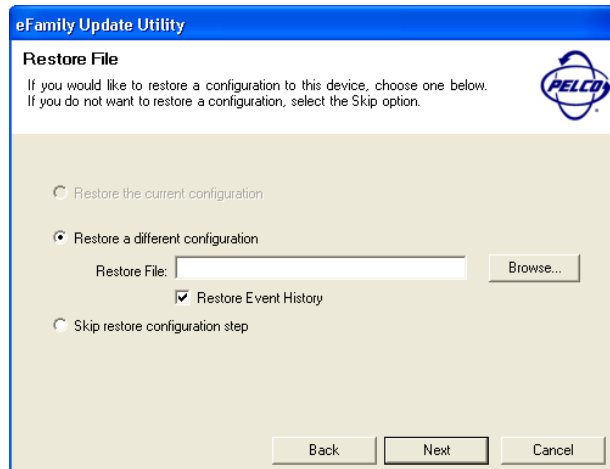

Figure A-10: Example Of Browse Button Being Used Screen
4. The “Restore File” screen is used to load a configuration onto the device that is different from the one currently on the device. (An example of this would be a previously backed up configuration.) Refer to Figure A-10. Use the “Browse...” button to navigate to the file, and then click the “Next” button.